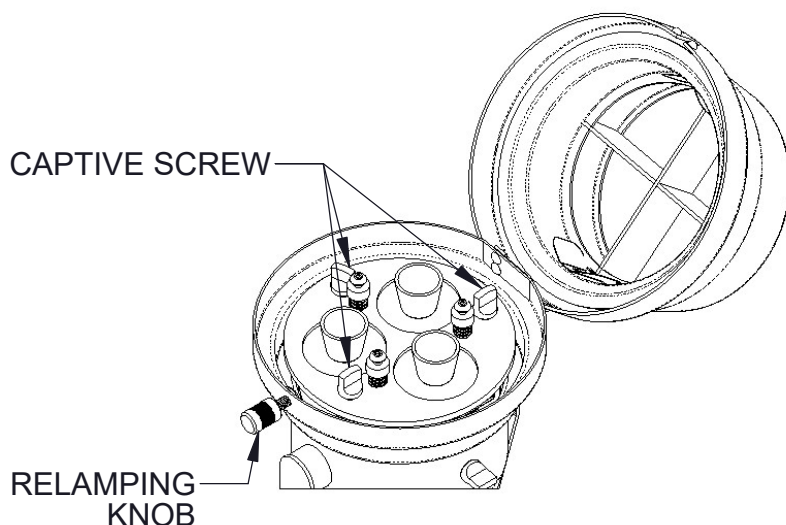

FIGURE 15. FIXTURE FRONT OPEN, SHOWING CAPTIVE SCREWS
2. OPEN THE FIXTURE VIA THE RELAMPING KNOB (**FIG. 15**).
3. REMOVE THE LED MODULE BY UNSCREWING THE THREE SCREWS SECURING IT TO THE HEAT SINK (**FIG. 15**). SCREWS ARE CAPTIVE AND WILL REMAIN WITH THE LED MODULE.
7. INSTALL THE NEW LED MODULE BY FIRMLY SCREWING THE THREE SCREWS TO THE HEAT SINK (**FIG. 15**).